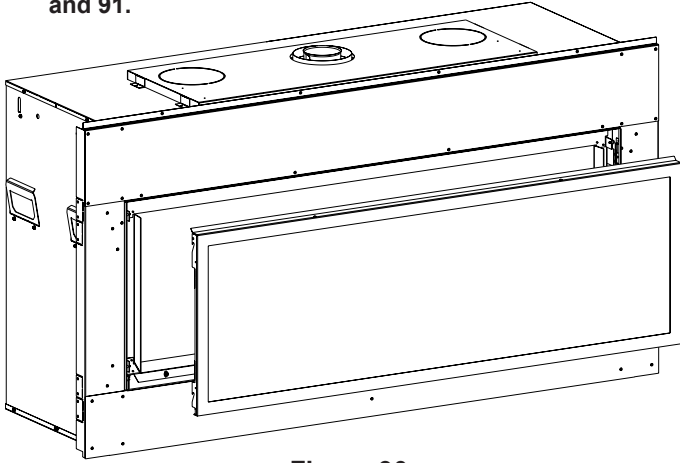

Figure 90
2. Remove 3 bolts at the bottom edge of the glass frame using a 9/16" socket. Tilt the bottom of the Glass Frame towards you and pull upwards to remove it from the unit. **See Figures 90 and 91.**